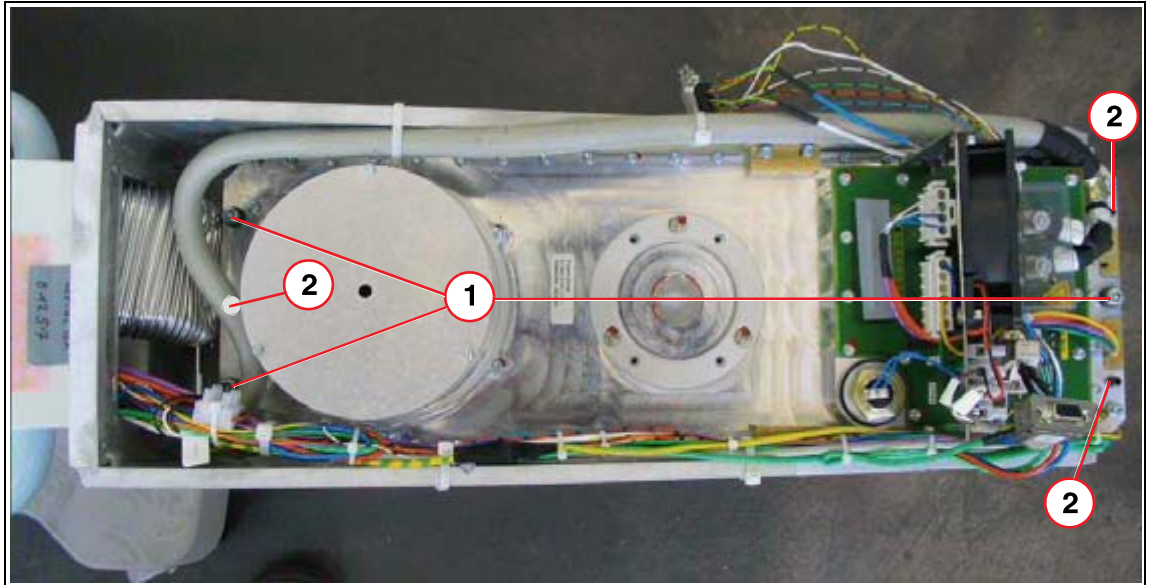

Fig. 12: Adjustment
8. Before the replacement, note the height of all grub screws (2/Fig. 12 / p. 37).
9. Loosen the fastening Allen screws of the single tank (1/Fig. 12 / p. 37).
11. Unscrew the grub screws (2/Fig. 12 / p. 37) and screw them into the new single tank.
3. Attach the single tank with the 3 Allen screws (1/Fig. 12 / p. 37) to the C-arm.
10. Set the grub screws (2/Fig. 12 / p. 37) to the distances noted at the start.
11. Screw in the fastening screws (1/Fig. 12 / p. 37), but do not tighten them; leave a few millimeters distance to the housing.
19. By setting the grub screws (2/Fig. 12 / p. 37) on the single tank, adjust the collimator centrally on the monitor.
21. After the collimator has been centered, tighten the fastening screws (1/Fig. 12 / p. 37) uniformly. Take care that the radiation field does not migrate again.